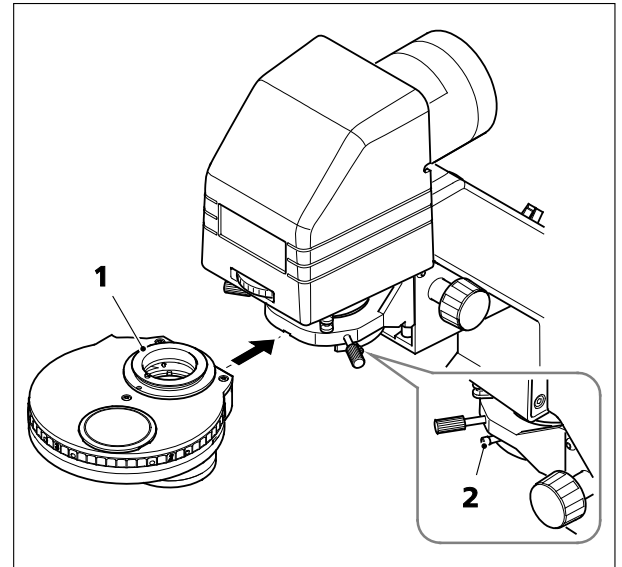

Fig. 31 Attaching the condensers
- Insert the condenser (Fig. 31/1) into the condenser carrier on the carrier for transmitted-light illumination, with the dovetail ring facing upwards. Ensure that the locating pin on the condenser is at the front and engages precisely with the guide groove on the condenser socket.
- Fix the condenser in place using the clamping screw (Fig. 31/2).